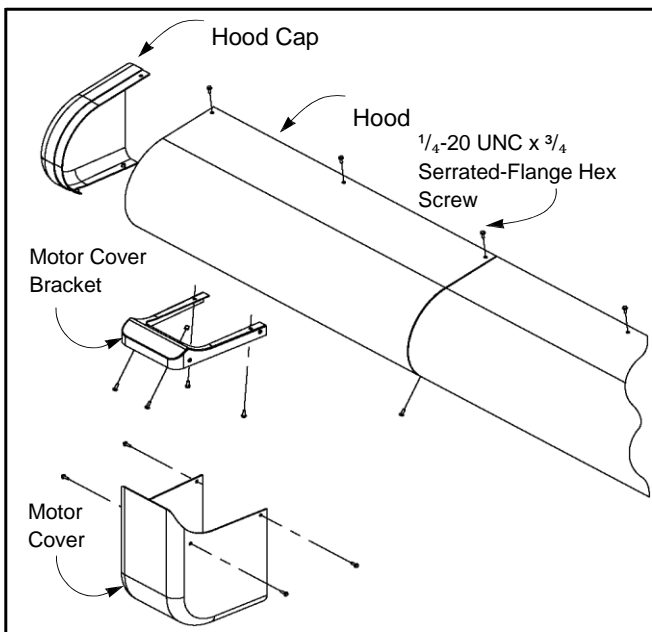

Figure 43
2. Assemble the motor cover, motor bracket, hood cap, and hood using  $\frac{1}{4}$ -20 UNC x  $\frac{3}{4}$  serrated-flange hex screws. (See Figure 43.)